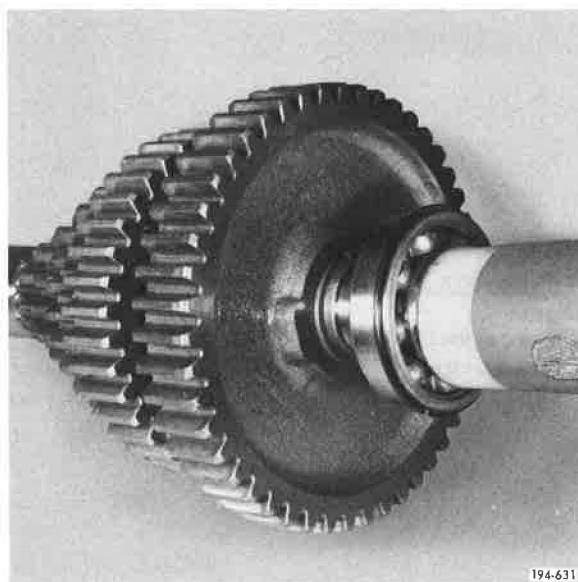

Figure 292. Installing Bearing
6. Install countershaft front bearing, being careful to apply force to the inner race only. A soft mallet or suitable driving sleeve may be used. See Figure 292.